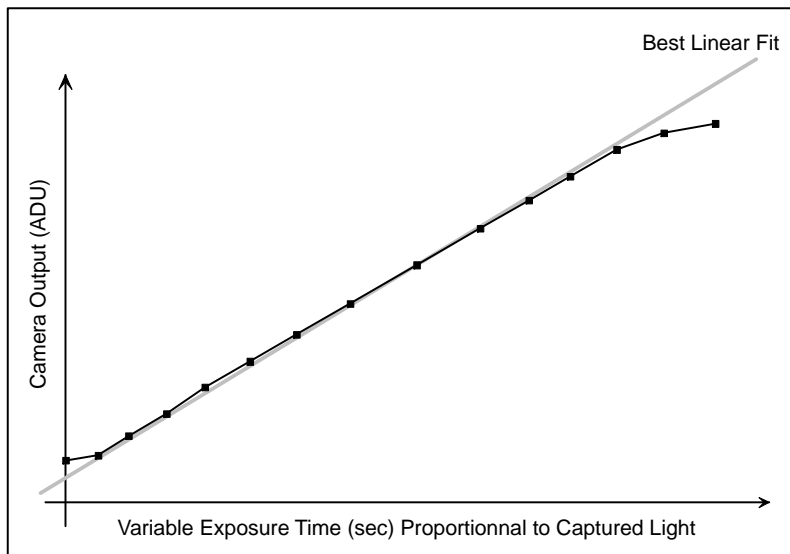

Figure 2. Detector CCD Output vs. Exposure Time
4. When the output reaches the saturation collect the data from the stored images and plot as shown in Figure 2.